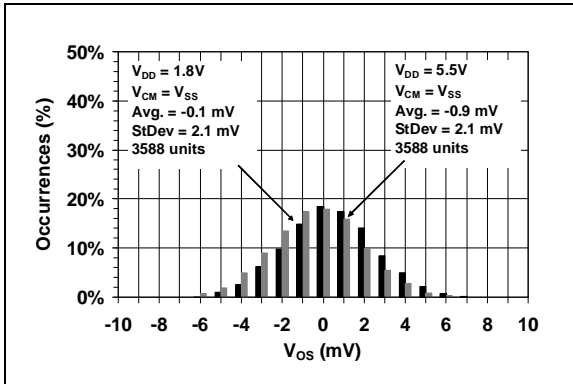

**FIGURE 1-1:** AC and DC Test Circuit for the Push-Pull Output Comparators.
**Electrical Characteristics:** Unless otherwise indicated:  $V_{DD} = +1.8V$  to  $+5.5V$ ,  $V_{SS} = \text{GND}$ ,  $T_A = +25^{\circ}\text{C}$ ,  $V_{IN+} = V_{DD}/2$ ,  $V_{IN-} = V_{SS}$ ,  $R_L = 10$  k $\Omega$  to  $V_{DD}/2$  (see Figure 1-1).
**Electrical Characteristics:** Unless otherwise indicated:  $V_{DD} = +1.8V$  to  $+5.5V$ ,  $V_{SS} = GND$ ,  $T_A = +25^\circ C$ ,  $V_{IN+} = V_{DD}/2$ ,  $V_{IN-} = V_{SS}$ ,  $R_L = 10\text{ k}\Omega$  to  $V_{DD}/2$ , and  $C_L = 25\text{ pF}$ . (see Figure 1-1).